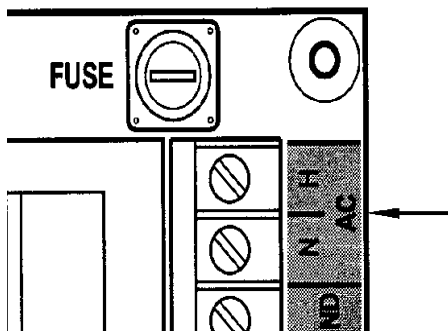

Figure 2
3. Connect supply power to the appropriate terminal locations on the upper right corner of the main circuit card. See **Figure 2**.